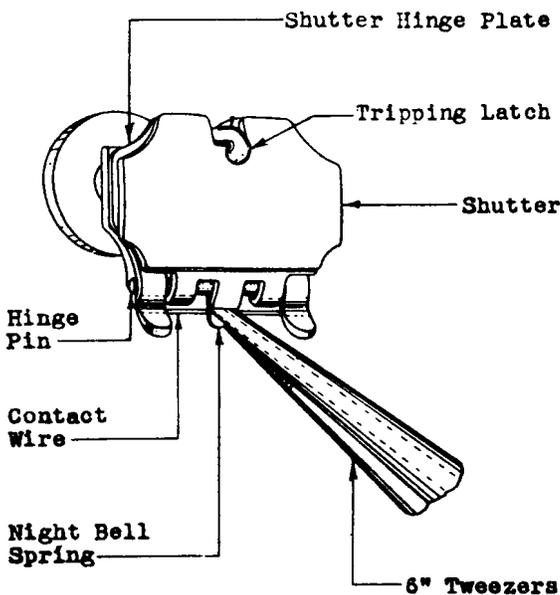

Fig. 7 - Method of Adjusting for Spring Clearance
(1) The clearance between the night bell spring and the contact wire with the drop held by the tripping latch may be changed ordinarily without removing the shutter, by adjusting the spring near the tip with the 6" tweezers as shown in Fig. 7. If the requirement cannot be met in this manner, remove the shutter hinge plate mounting screws with the 3" cabinet screwdriver. Then remove the hinge pin and shutter and adjust the spring with the KS-7782 parallel jaw pliers or the KS-6015 duck-bill pliers.